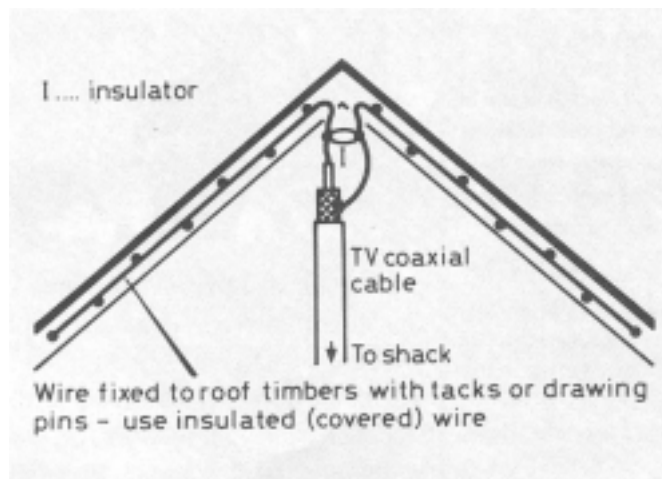
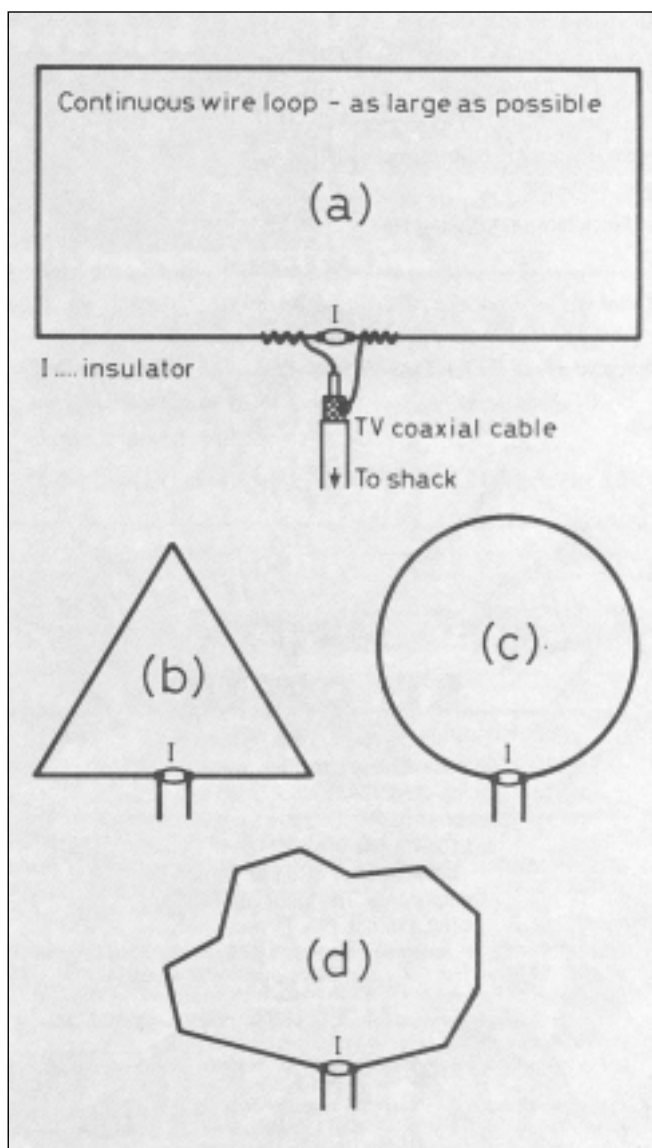

Figure 2 An indoor antenna should be mounted as high as possible
Figure 3 Try different shapes of loop antenna to see which works best
Next up the ladder of complexity is the **dipole** (meaning two poles, or two elements). One form of dipole for lower frequencies would take the same basic form as the long wire, except that the feed to the receiver is taken, not from the end, but from the centre. The wire is essentially cut into two halves, and the two ends at the centre are connected to one end of a coaxial cable, which is then taken to the receiver. A smaller form of this is shown in **Figure 2**, which is conveniently mounted in a house loft. Aerials should always be mounted outside for best results, but will work when mounted inside, and the loft space is the logical situation.
For flat- or apartment-dwellers, an indoor aerial is often the only solution, in which case the dipole of Figure 2 may be of great use. Other popular types include the **loop aerial**, of which several types are shown in Figure 3. The shape of the loop is of secondary importance, but it should be as large as possible.
Every receiver needs some audio frequency (AF) amplification to make the sound signals big enough for you to hear. The circuit for the AF amplifier is shown in **Figure 2**. It uses the TDA7052 integrated circuit (IC) plus a handful of extra components. R1 in conjunction with C2 and C3 *decouple* the battery supply, preventing any audio signals getting through to it and affecting other parts of the radio, when they are connected. C1 acts to prevent high frequencies (above the 3 kHz bandwidth) going into the amplifier input. A volume control, VR1, is connected across the amplifier input, so that the amplifier can accept signal inputs over a wide range. **Figure 3c** shows the connections, which are made with screened cable. The
Figure 2 The Philips TDA7052 integrated circuit (IC) used in the audio amplifier needs very few extra components. It has a signal voltage gain of 100 times and the output is suitable for a loudspeaker or headphones
centre conductor of the left lead goes to the point marked 'input' in Figure 2, the braid being connected to the amplifier earth (0 V) tag. The right lead to VR1 goes to whatever signal source you have for testing – see later. VR1 is *not* mounted on the PCB.
Figure 3 It is important to check the component connections carefully. The diagram shows (a) top view of the IC, (b) electrolytic capacitor and (c) volume control (VR1) connected across the input of the amplifier